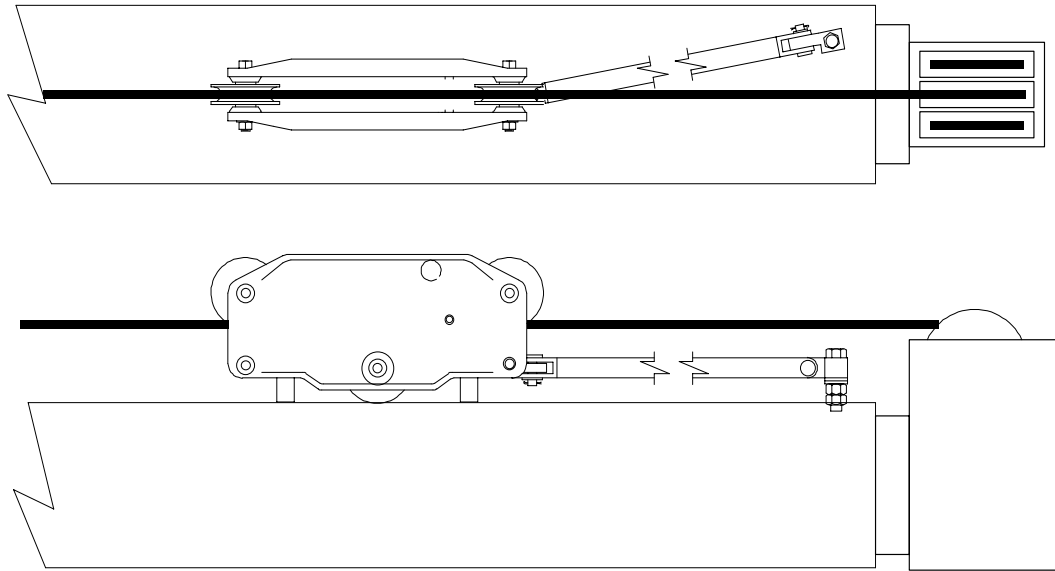
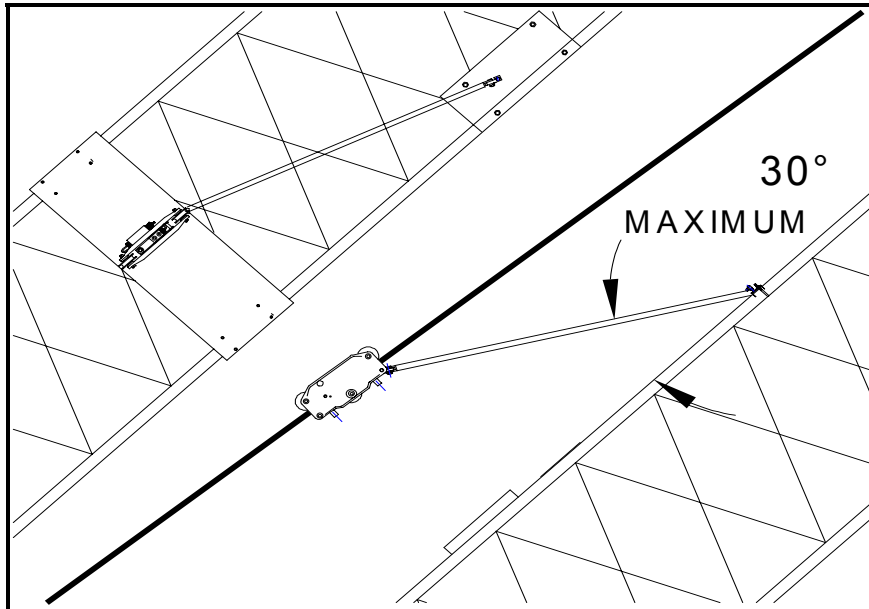

Figure 2. Hydraulic Boom Linerider Installation.
Figure 3. Lattice Boom Linerider Installation.
- A.1. Affix the bolt at the tip of the base section on the main boom similar to Figure 2. Select a location that the swing arm angle with respect to the boom will not exceed 30°(see Figure 3). The linerider should be located as close to the boom tip as possible.
- B.1. Select a location that the swing arm angle with respect to the boom will not exceed 30°(see Figure 3). The linerider should be located as close to the boom tip as possible.